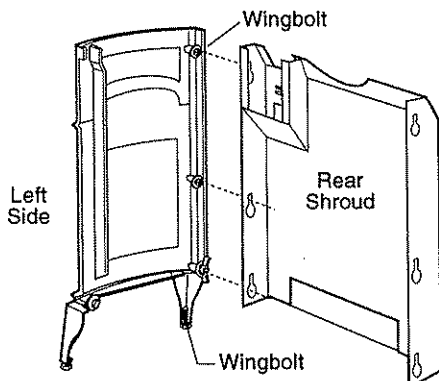

Figure 15. Secure Left End to the Rear Shroud.
1. Attach the Rear Shroud to the Left End plate by aligning the key holes with the two wingbolts in the side. If necessary, turn the wingbolts to orient the blades vertically. Fig.15. Slide the shroud downward to engage it behind all three washers on the side plate bolts and then tighten both wingbolts.